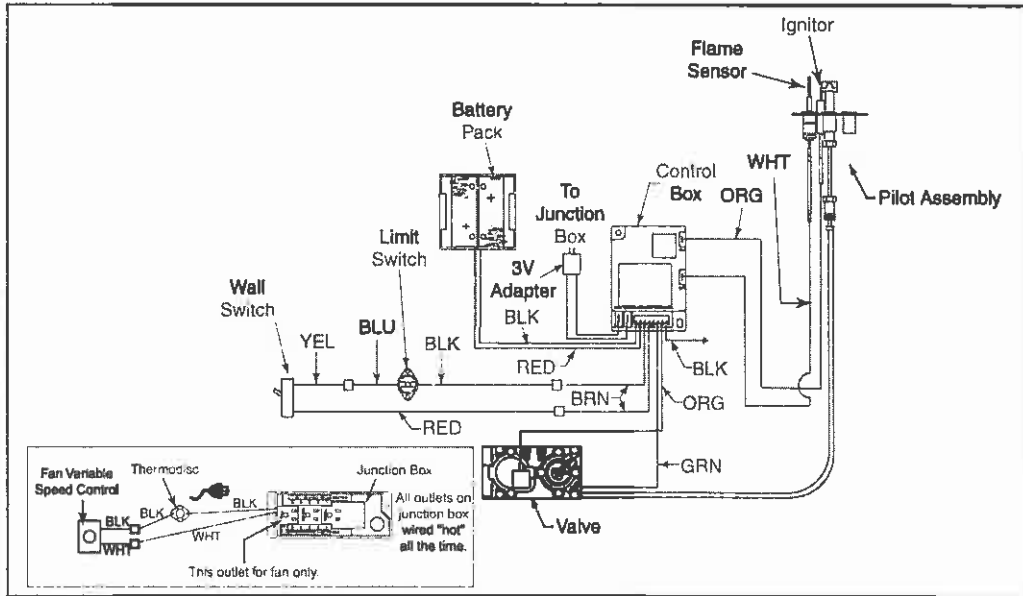

Figure 16 - Intermittent Pilot Ignition Wiring Diagram
- 1) This appliance requires a 110V AC supply to the appliance junction box for operation. A wiring diagram is shown in Figure 16.